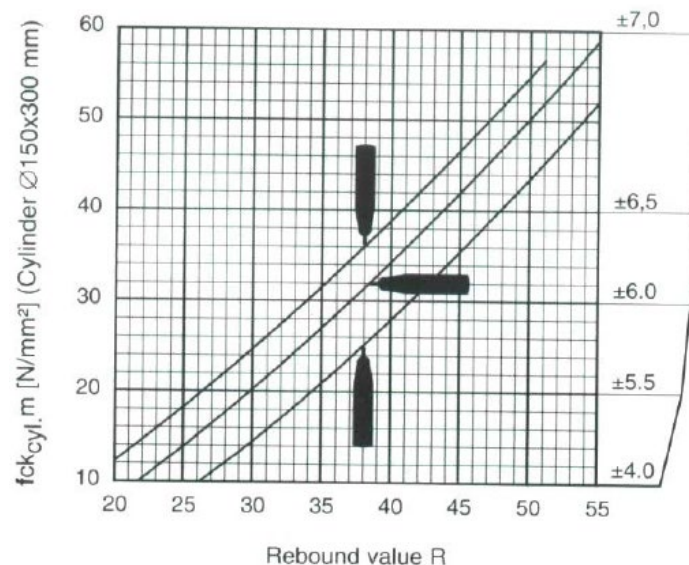

Figure 2.5 Conversion curves based on the average compressive strength of a cylinder and the rebound value R .
- Determine which conversion curve is appropriate for the selected sample and shape (see Figures 2.5 - 2.7, pages 6 – 8). Then, using the average rebound value R_m and the selected conversion curve, read off the average compressive strength.
The conversion curves (Figures 2.5 - 2.7) for the concrete test hammer are based on measurements taken on many sample cubes. The rebound values R of the sample cubes were measured using the concrete test hammer. Then the compressive strength was ascertained on a pressure testing machine. In each test, at least 10 test hammer impacts were performed on one side of the test cube which was lightly clamped on the press.
The concrete test hammer in Figure 2.5 indicates the impact direction.